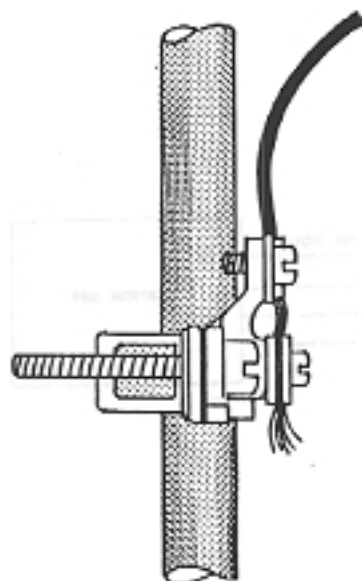

Figure 5-5 GROUNDING TO COLD WATER PIPE
3.11 Ground the KSU by connecting one end of a stranded 14 AWG, or heavier, insulated copper wire to the CWP grounding lug on the KSU backplane ( Figures 5-1 and 5-3 ). Use a grounding clamp on a cold water pipe or other known ground for the other end of the wire ( Figure 5-5 ). The ground wire should be as short as possible.